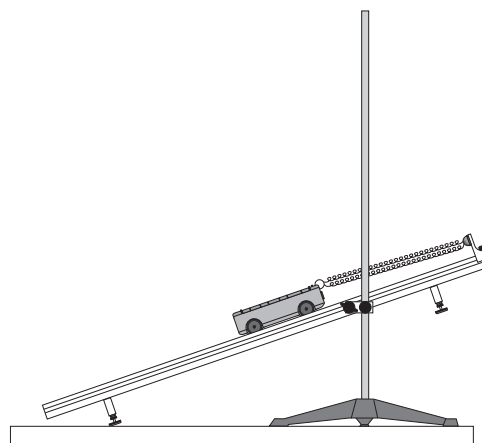

Figure 6.3: Springs in Parallel
- Put the two springs in parallel as shown in Figure 6.3 and repeat Step 4.